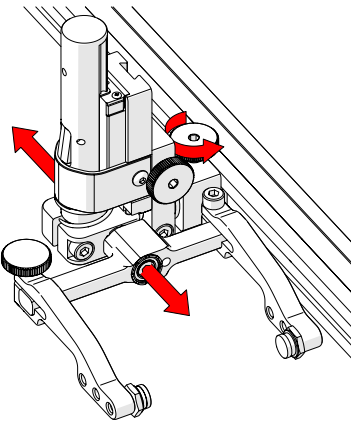

Fig. 105 - Adjust on frame bar
1. The probe holder adjustment knob allows the probe holder to be attached to a frame bar, as well as horizontal positioning on a frame bar (Fig. 105).